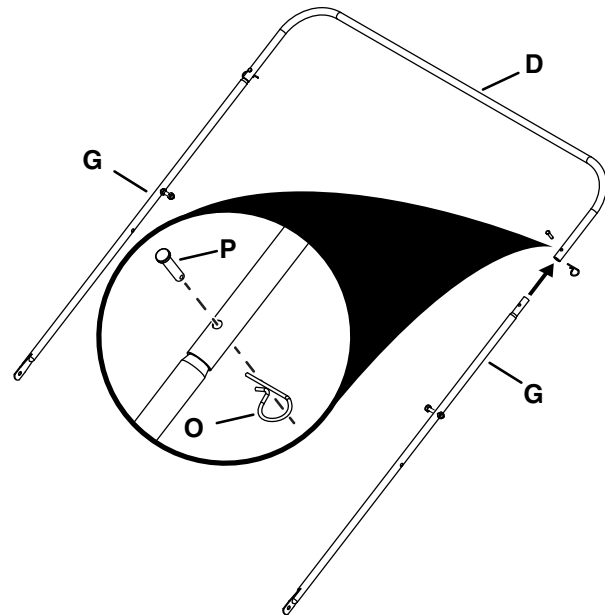

Figure 7
STEP 7: (SEE FIGURE 7)
- Attach the upper hopper tubes (G) to the other rear hopper tube (D) using 1/4" x 1.11" clevis pins (P) and 3/32" x 1.8" hair pins (O).
- Ensure the holes are facing down on the rear hopper tube (D).